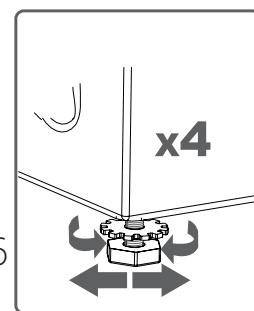

Fig 6
**4:** Adjust by rotating the feet upwards or downwards. (Fig 6)